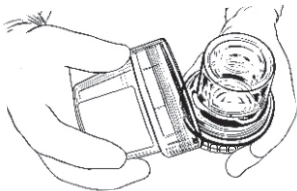

Figure 3 :
8. Remove the outer polycarbonate container top by rotating in the anticlockwise direction (Refer figure 3). Present the inner polycarbonate container to the sterile operating person. Note that the inside of the outer polycarbonate container will be sterile if the container is not damaged. Hence the inner polycarbonate container should be handled in a sterile environment.